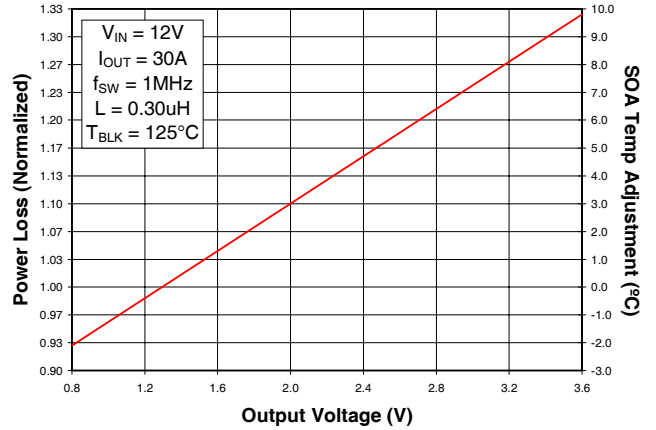

Fig. 4: Normalized Power Loss vs. V_{OUT}
- (Fig. 4) Normalized power loss for output voltage ≈ 1.28
- (Fig. 4) Normalized SOA Temperature for output voltage $\approx 8.4^{\circ}\text{C}$